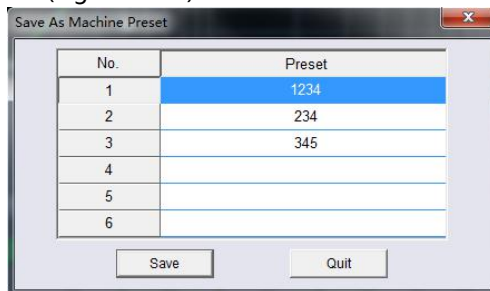

Figure 3.4.2
Step2: Click "Save as machine preset " item will pop up after the Save As dialog window machine preset (Figure 3.4.2).
Step 3: Figure 3.4.2 dialog box, does not show the name of the data indicates that this scene is the factory default data, select the user preset number you want to save the machine location (such as Option 4), and then point below the "save" button, you pop up as shown in Figure 3.4.3," enter the scene name "box. **If you select the number of the existing scene name, it will overwrite the original data!!**